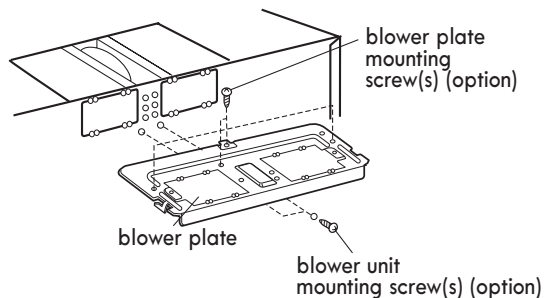

Figure 18
1. Remove blower unit mounting screw(s) and blower plate screw(s). Remove the blower plate from cabinet. See Figure 18.